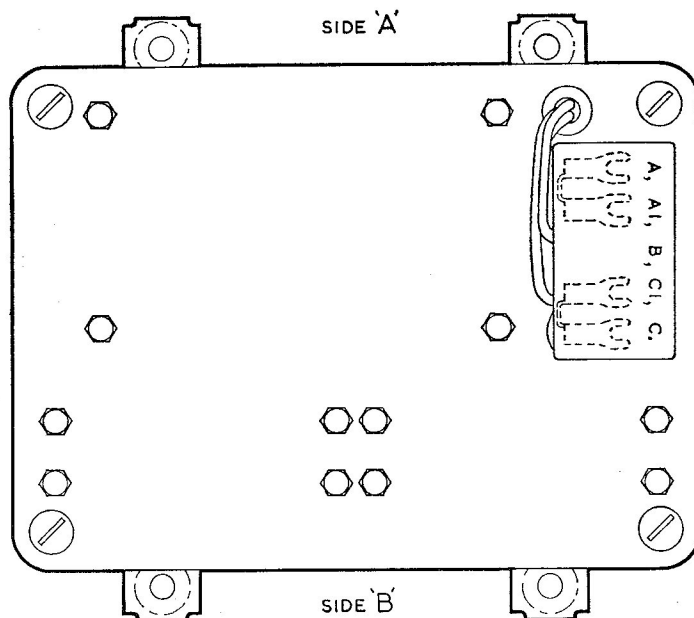

Fig. 1. Typical phase correction unit
2. A typical unit is illustrated in fig. 1. It comprises two inductors and an $8.3 \mu\text{F}$ (± 10 per cent) capacitor suitably inter-connected and mounted within an aluminium case. The case has two mounting flanges and a removable cover. A five-way terminal block is mounted on the case.